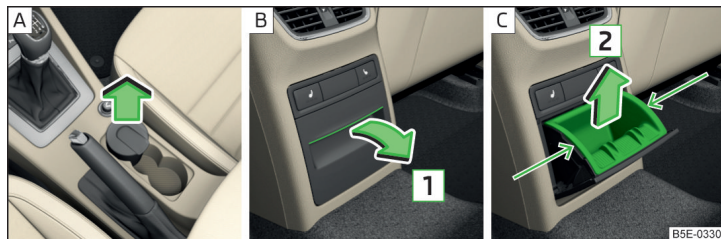

Fig. 84 Remove front ashtray / open rear ashtray / remove rear ashtray insert
► Pull out the ashtray in the direction of the arrow » Fig. 84 - [A].
► Pull the upper part of the well and open the ashtray in the direction of arrow [1] » Fig. 84 - [B].
► Grasp the insert in the area marked with the arrows and remove it in the direction of arrow [2] » Fig. 84 - [C].